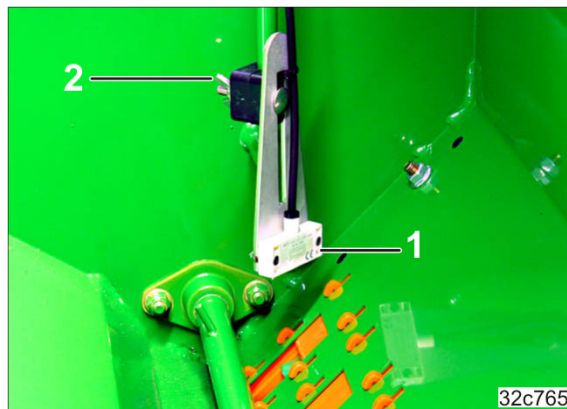

Fig. 145
1. Adjust the height of the fill level sensor (Fig. 145/1) according to the required residual seed quantity.
2. Tighten the thumb nut (Fig. 145/2).